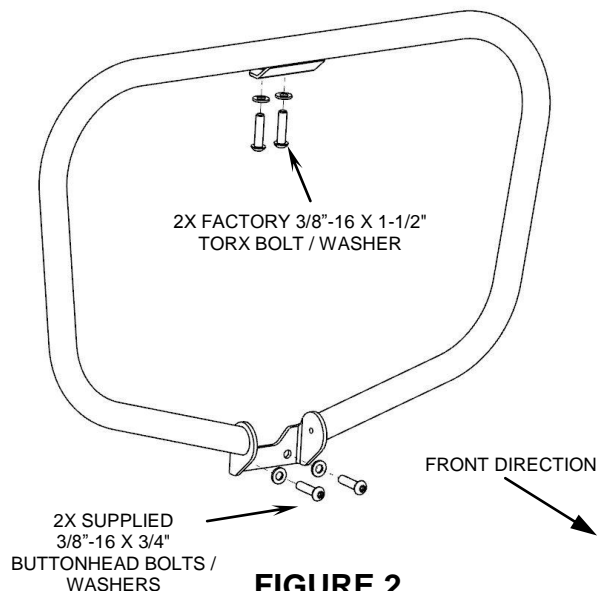

FIGURE 2
3. Position the freeway bar into place between the front frame rails and front tire. Align the slotted holes in the freeway bar's upper mount with the open holes on the frame (refer to Step 2) and insert the (2) removed 3/8"-16 factory torx bolts and washers but **DO NOT TIGHTEN**. See Figure 2. **NOTE:** If your bike has the horn mounted below the upper engine mount, position the freeway bar between the engine mount and horn bracket.
4. Thread the (2) supplied 3/8"-16 x 3/4" buttonhead bolts and 3/8" washers thru the lower freeway bar mount and into the lower frame brace but **DO NOT FULLY TIGHTEN**. See Figure 2.